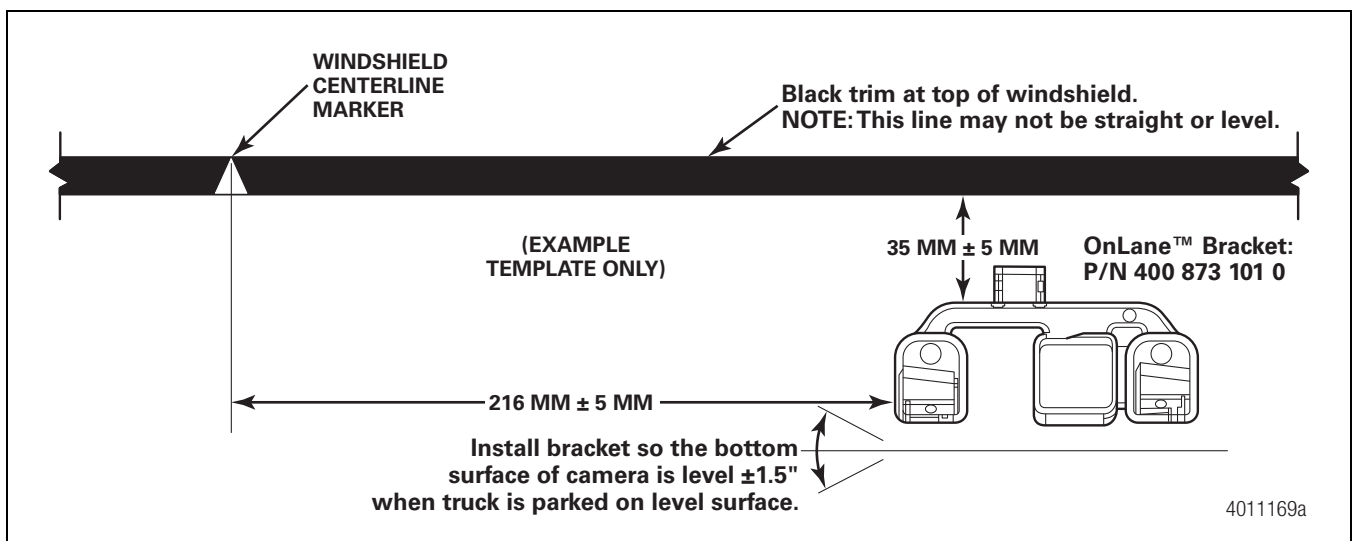

Figure 3.8
6. Align the template so that the markings on the template are square to the centerline markings and the frit/trim line markings at the top of the windshield. Figure 3.8. The template shown is an example only.